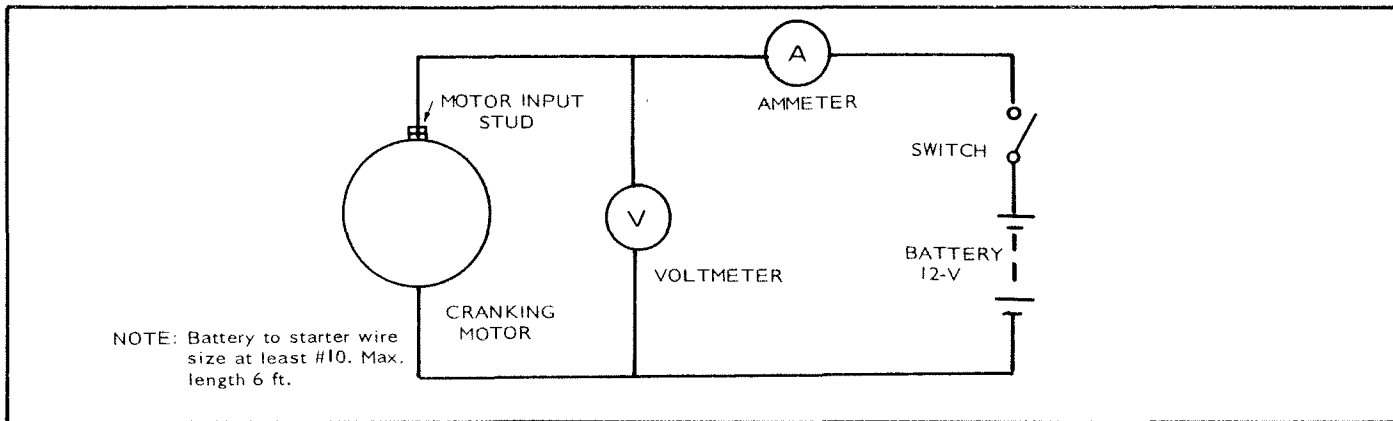

FIGURE 22. NO LOAD TEST
1. **No Load Test:** Connect the starting motor as shown in Figure 22.